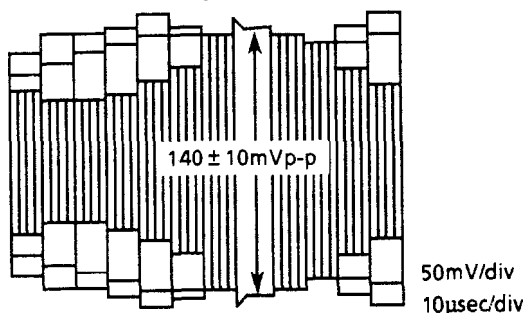

Figure 2-10.
4. Adjust R255 (recording FM control) so that the sync tip be 140 ± 10 mVp-p as shown in Figure 2-10.